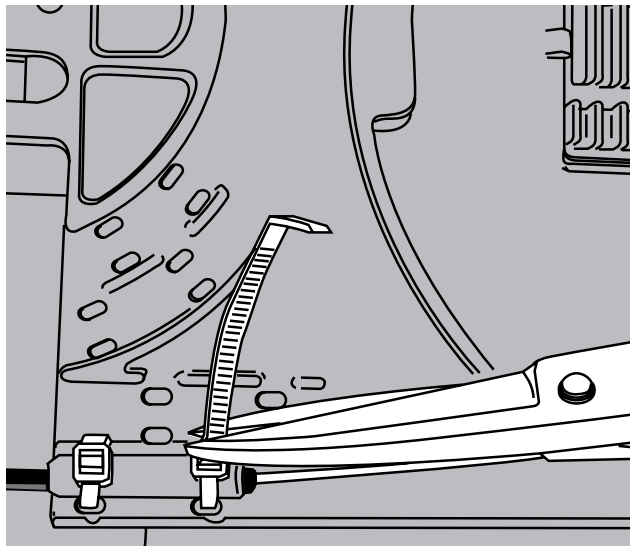

FIGURE 9
9. With the ties provided, secure the loose buffer tube in two slotted positions on the SLIDE-N-LOCK splice tray over the blue felt. (Figure 9)